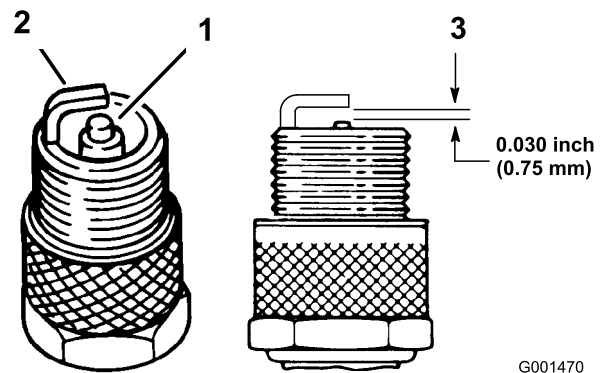

Figure 33
1. Look at the center of the spark plugs (Figure 33).
3. Check the gap between the center electrode and the side electrode (Figure 33).
Note: Bend the side electrode (Figure 33) if the gap is not correct.
3. Connect the wires to the spark plugs (Figure 33).